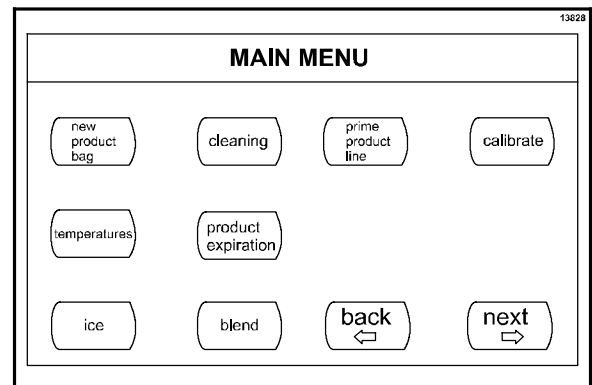

Figure 131
- From the Main Menu screen, press the CALIBRATE key. (See Figure 131.)